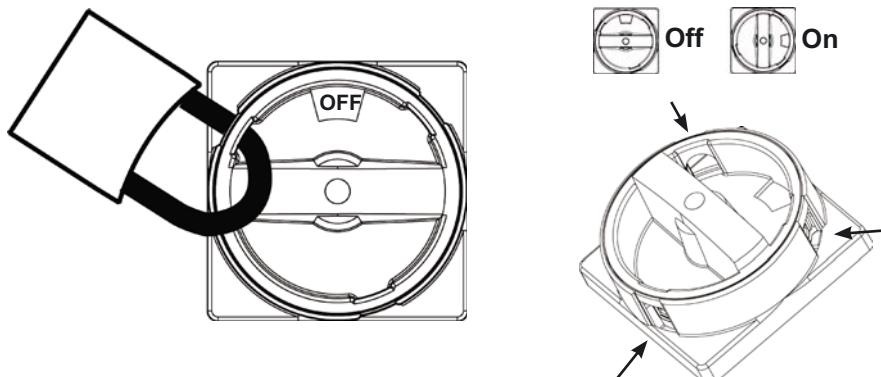

Figure 7: Lockable DC Disconnect
- (1) Solar Inverter Power Box - This is the inverter section of the assembly. This section is sealed at the factory and there are no user-serviceable parts inside. All wiring to install the inverter is done in the wiring box.
- (2) LED Lights - The three LED lights indicate errors or status as described in section 8.
- (3) LCD Display - The 20 character, 4 line LCD display shows important messages regarding the inverter status and performance.
- (4) Display Control Buttons - These 4 buttons allow the user to access status and performance information and to change settings via the display.
- (5) Mounting Plate - The inverter ships with a mounting plate that allows easily assembly of the inverter to a wall.
- (6) Lockable DC Disconnect - The DC disconnect is lockable per the UL code and allows for the DC power to be switched off to the inverter. See figure 7 below.
- (7) Wiring Box Cover - This is the cover for the wiring compartment. The removal procedure is shown on page 30. Please note the DC disconnect must be in the OFF position before this cover can be removed.
- (8) Wiring Box - This is the compartment where all the wiring for the inverter inputs and outputs plus the RS485 communication are done.
- (9) Conduit Plugs - There are 6 - 1" conduit openings and 2 - 1/2" conduit openings. Each conduit opening comes fitted with a conduit plug that should be removed before installing conduit fittings. Conduit fittings need to be water tight with either NEMA 4, 4X, 6, or 6X rated, and insulated type is preferred.